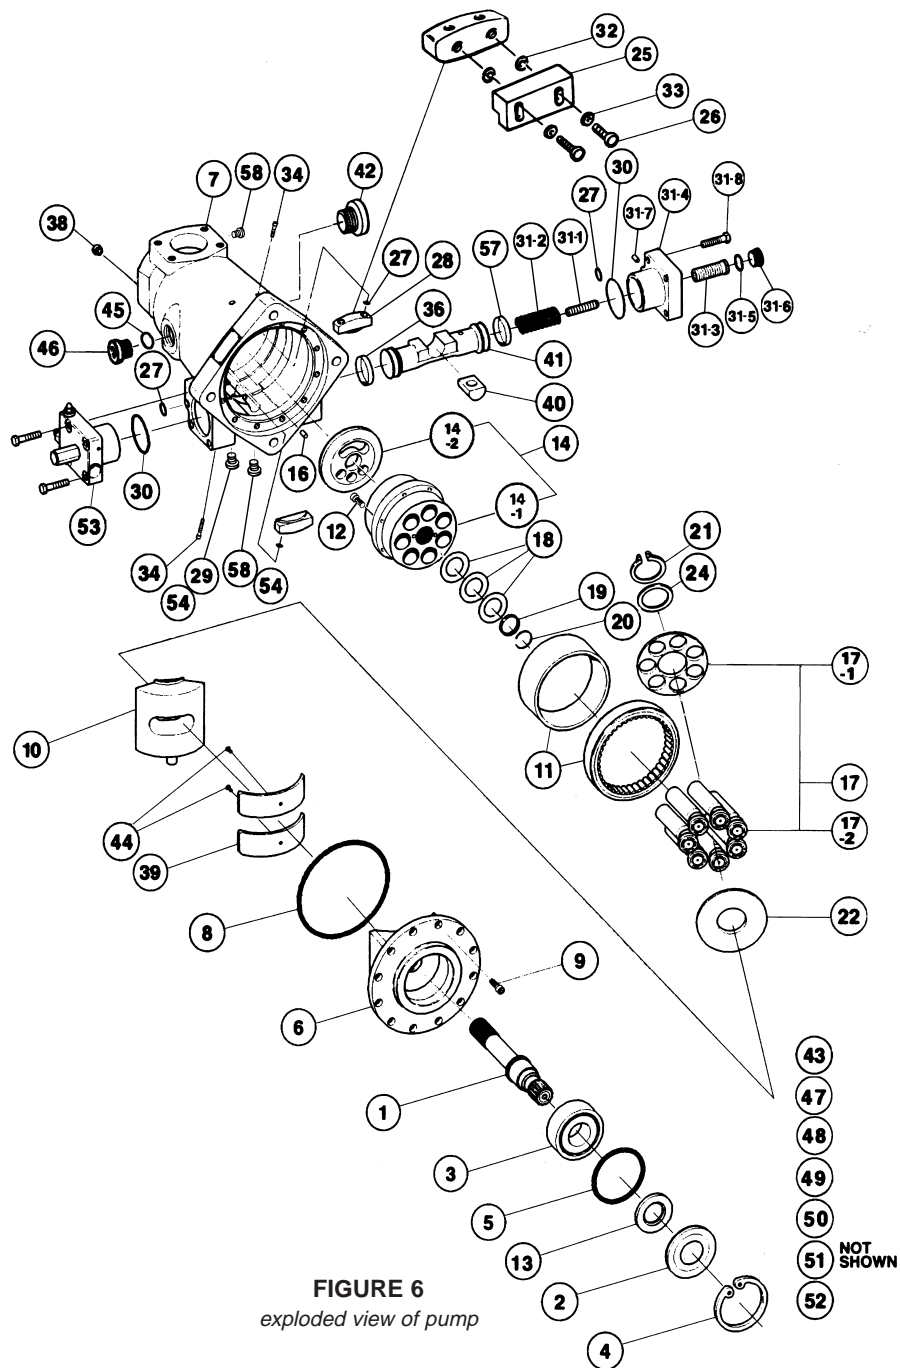

FIGURE 6
See Figure 6. Remove Belleville washers (18) and barrel stop (19) from barrel.